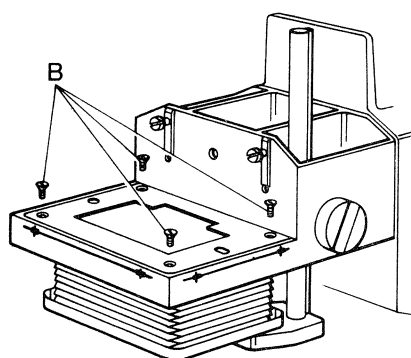
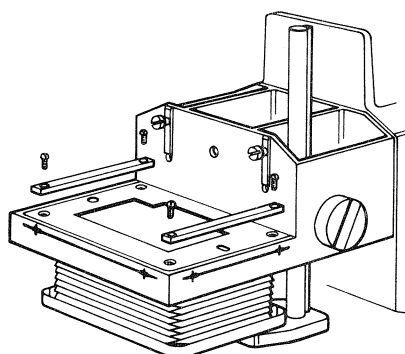

Fig 6
Fig 7
- 3.2.3 Remove the four counter-sunk screws "B", from the negative carrier location plate (Fig. 6), but leave the plate in position. The negative carrier runners with the screw head recess on the top, should then be fitted to the plate, with the four screws provided (Fig. 7).